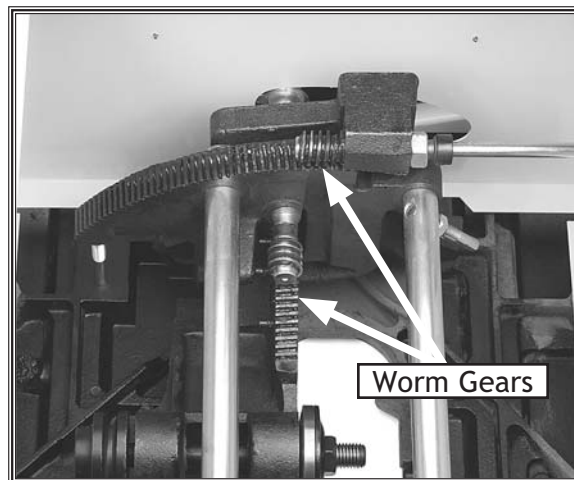

Figure 58: Worm gear lubrication points.
- The worm gears** should be lubricated with either graphite or white lithium grease (see **Figure 58**).